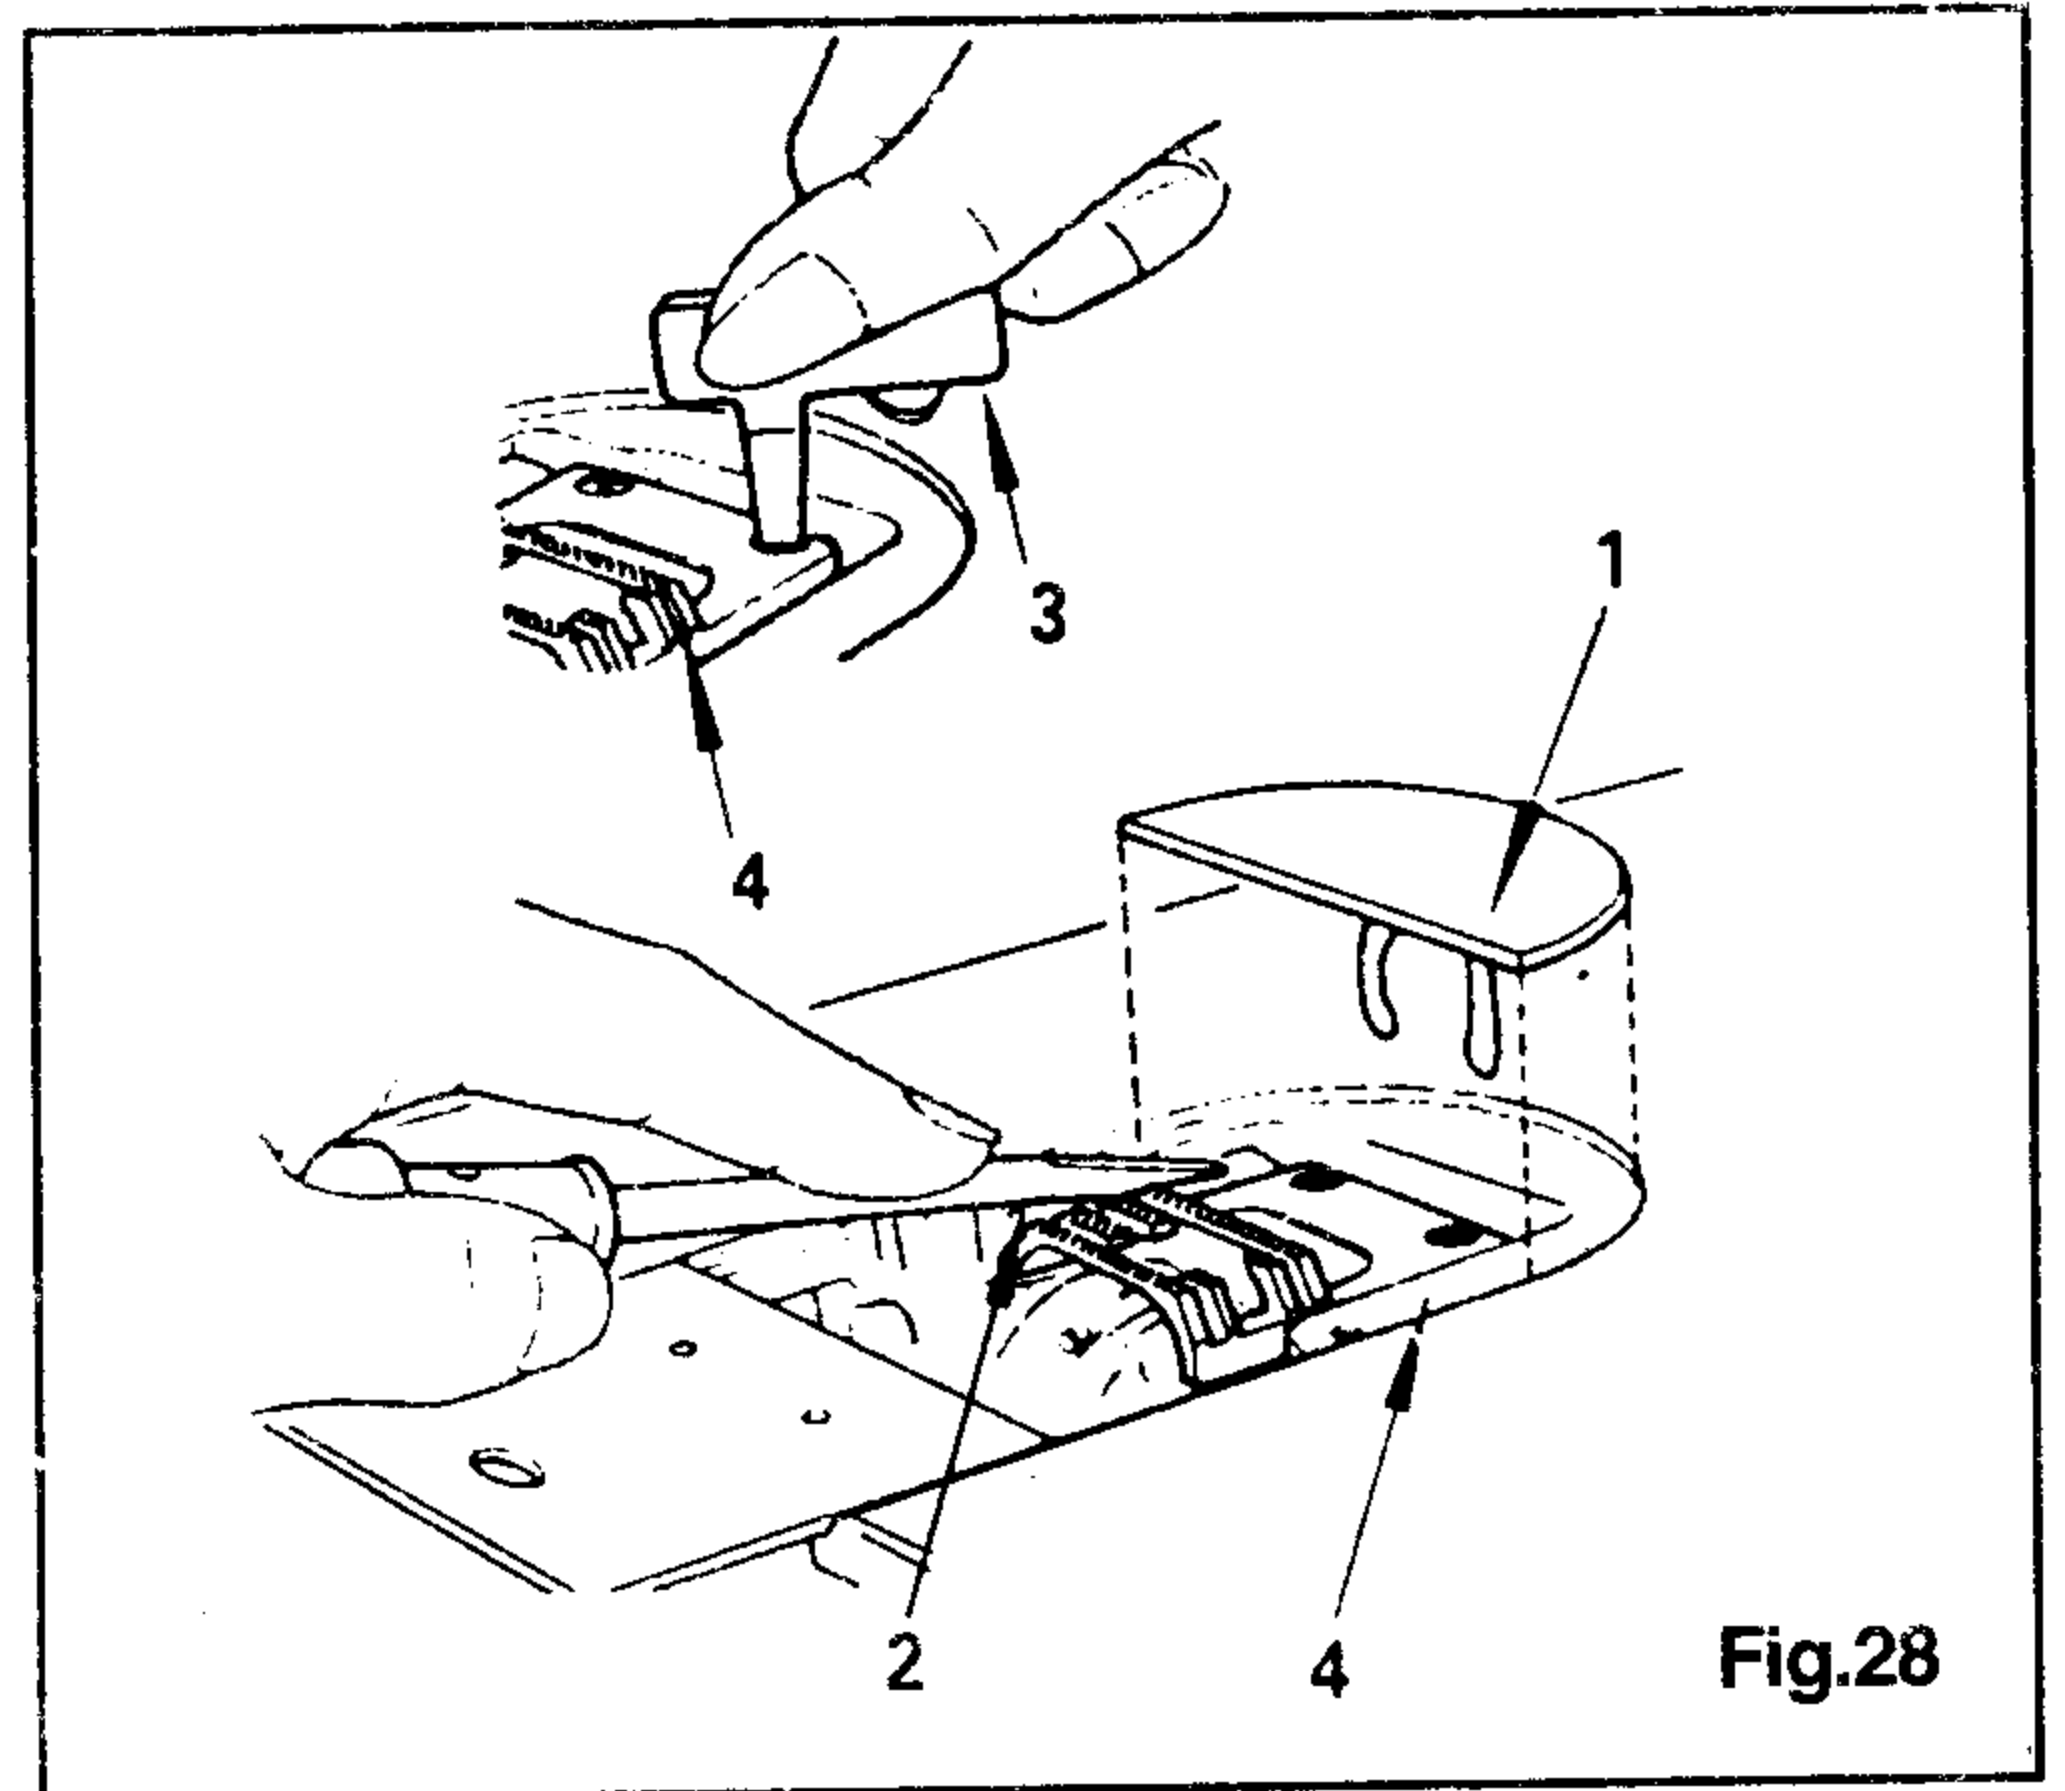

Fig.28
1. Open bed slide, then remove throat plate . (Use screwdriver (3), Fig.28. furnished with machine for removal and replacement of throat plate and feed dog.)
2. Using a screwdriver (2), remove bed plate (1) and remove feed dog (4). (See Fig.28.)